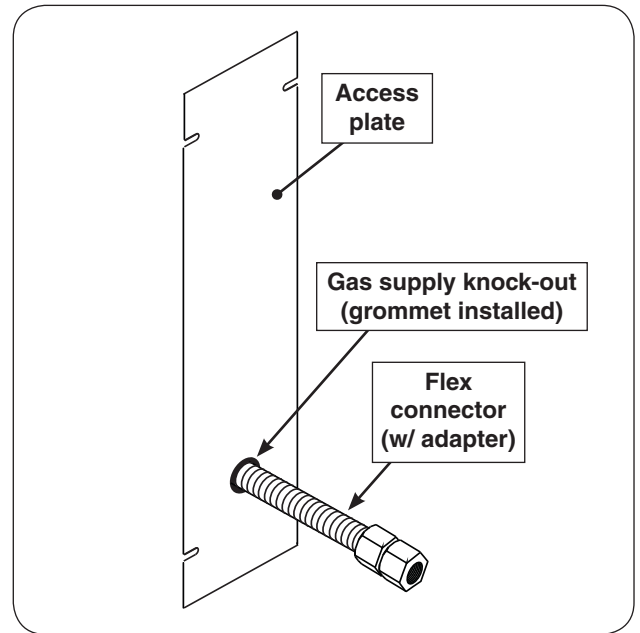

Fig. 16-1 Access plate view & install orientation
2. Remove the plastic grommet (attached to the flex connector) and insert it into the newly created opening. Then route the flex connector through the opening. See Fig. 16-1 and 16-2.